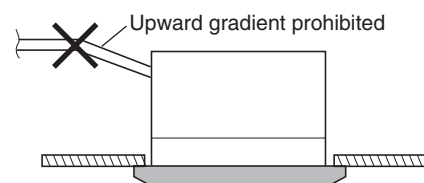

Fig. 3-10
- Do not install the pipe with an upward gradient from the connection port. This will cause drain water to flow backwards and leak when the unit is stopped. (Fig. 3-10)